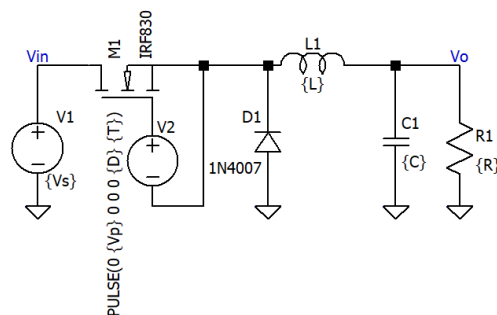

Figure 5.1 Buck Converter
1. Connect the circuit as shown in Figure 5.1.